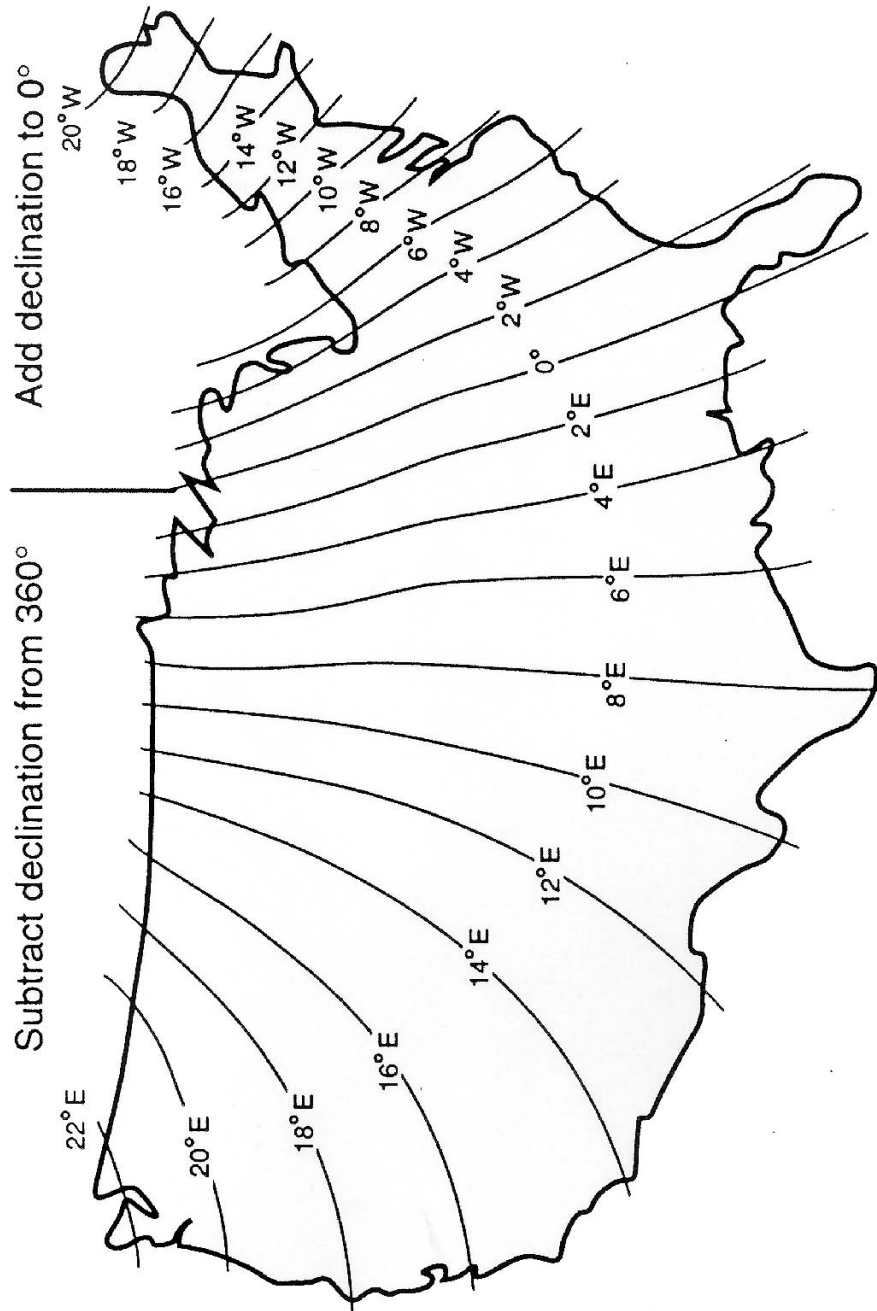

FIGURE 2 - MAGNETIC DECLINATION FOR THE CONTIGUOUS UNITED STATE
weather station. True North is usually found by reading a magnetic compass and applying the correction for magnetic declination. (Other methods employ observations using the North Star or the sun, and are discussed in the Quality Assurance Handbook for Air Pollution Measurement Systems, Volume IV - Meteorological Measurements.) The magnetic declination is the number of degrees between True North and Magnetic North. Magnetic declination for a specific site can be obtained from a USFA map, local airport, or through a computer service offered by the USFS called GEOMAG (see page 7). A general map showing magnetic declination for the contiguous United States is shown below in FIGURE 2.
REFER TO NEXT PAGE FOR FIGURE 2
15.99 degrees. As shown in FIGURE 2,